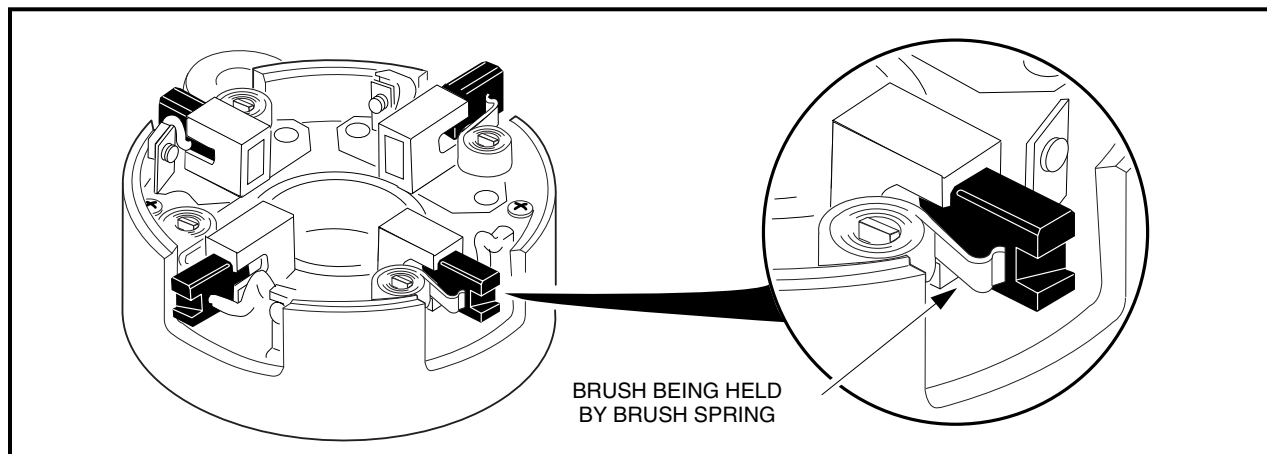

Figure 12a-7 Pull Brushes Away From Center of the Commutator End Cover
2. Remove nut (41), lock washer (40), pulley (39), shaft key (34), spacer (37) and bearing retainer screws (43) and separate armature (33) from output end cover (36) (**Figure 12a-8, Page 12a-5**).